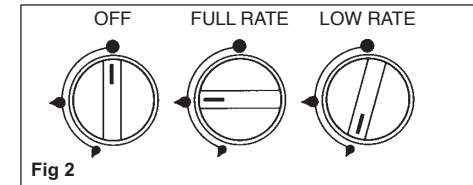

Fig 2
To light the grill, push in the control knob and turn to full rate (see Fig 2. Hold a lighted
2. To light: Open door, push in the control knob and turn to full rate (see Fig 2). Hold a lighted match or taper to the burner and push the control knob in and hold. The burner should ignite and the control knob should be held in for 10-15 seconds before release. If the burner goes out, repeat procedure holding control knob for slightly longer.